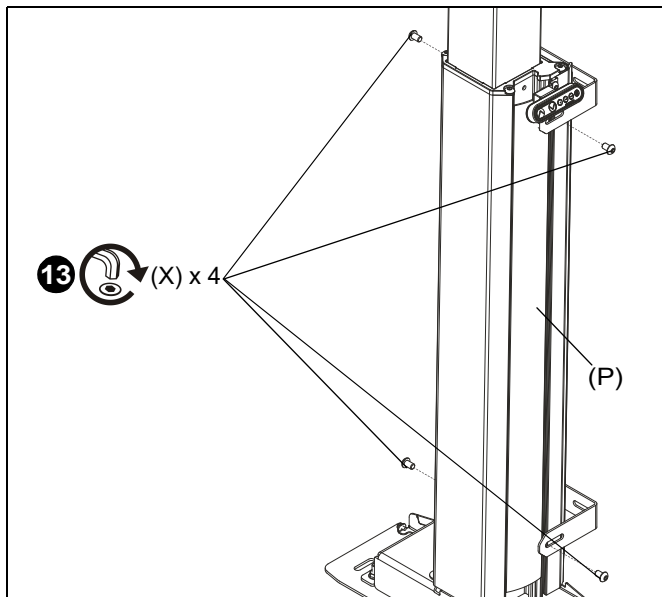

Figure 24
13. Install four 5/16-18 x 5/8" button head cap screws (X) through slots on wall brackets (B1) and side of column assembly (P). (See Figure 24)